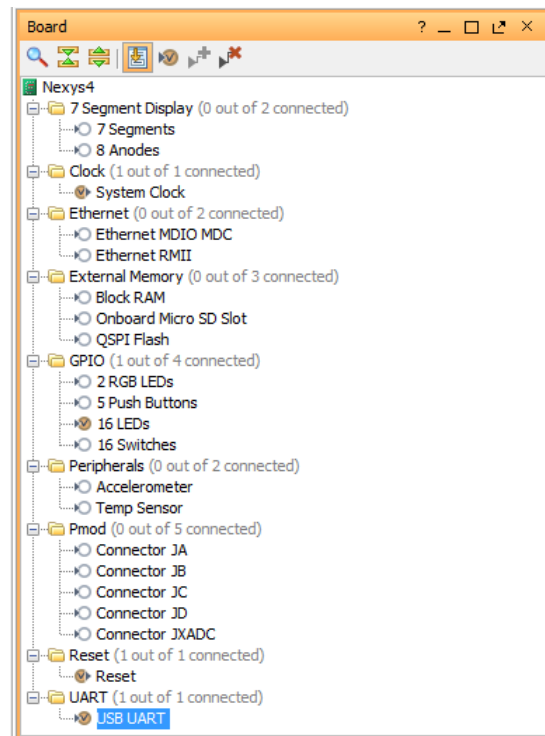

Figure 9: Selected Board Interfaces
- From the Board window, select **USB UART** and drag and drop it into the block design canvas (see Figure 9). This will allow you to communicate via the UART interface of the board with your design. This will be used to display simple text messages from your software running on your board, in a console connected with the board via a serial. Click **OK** in the Auto Connect dialog box.